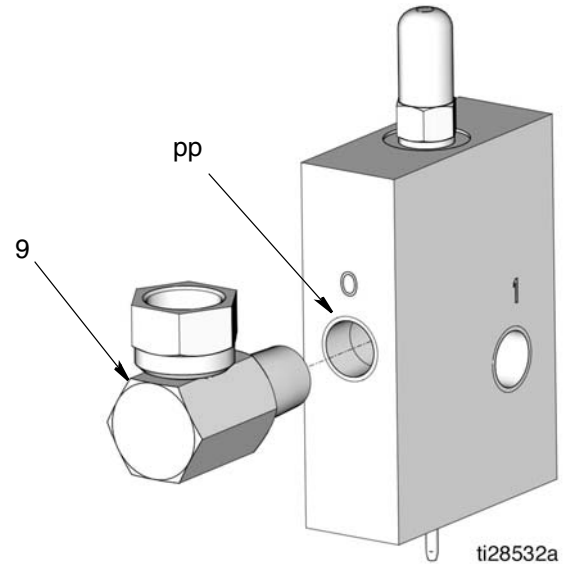

FIG. 24
10. Install swivel fitting (9) in Auto-Fill Shut Off (1) outlet port (pp) marked with a "0".
**NOTE:** When correctly installed, the outlet elbow should be facing up as shown in FIG. 24.